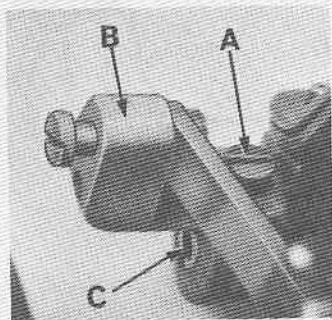

Fig. 12
The thread tension release is set correctly when it begins to function at the point when the upper feed roller begins to raise. When adjustment is necessary, loosen screw (A, Fig. 12) in lift lever (B). Facing the tension release shaft (C) from the RIGHT end of the machine, insert screwdriver in slot in shaft and rotate counterclockwise to retard, or clockwise to advance the release action, as required. Retighten screw (A).